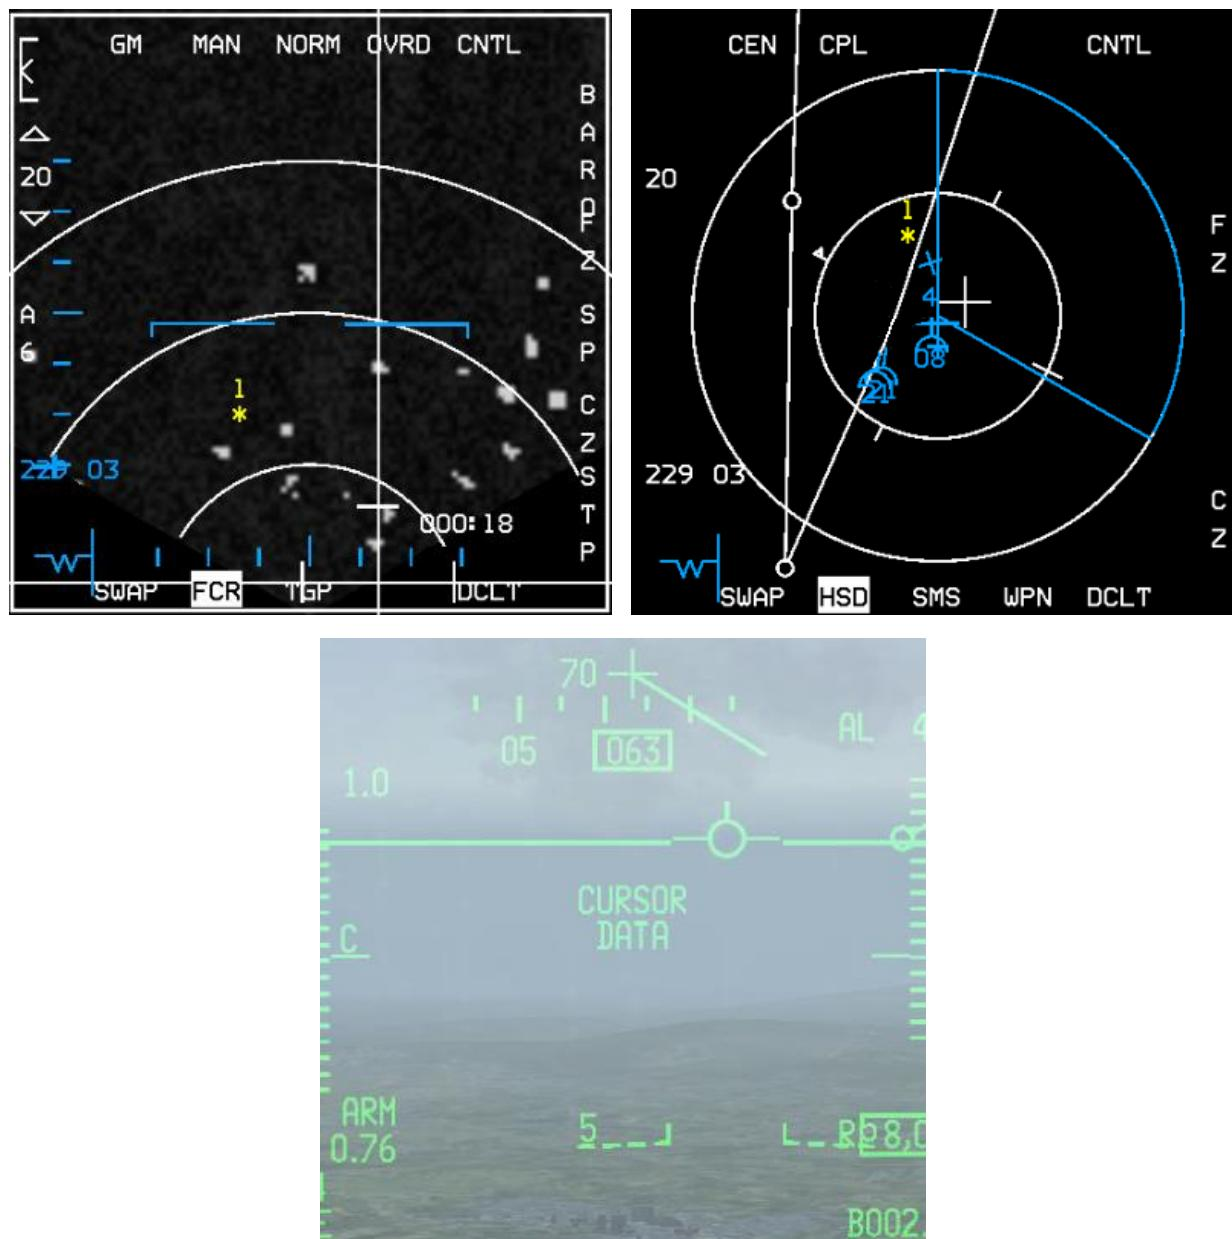

Figure 13 Assignee (#3's) FCR, HSD and HUD. Assigner (#1) sent cursor data NNE of ownship Markpoint
- Data Link FCR A-G Cursor Position (see Figure 13). The data link A-G cursor position is displayed on the HSD as an asterisk with the sending flight member's number above it.
Transmitting ownship A-G cursor coordinates is accomplished hands-on by making the FCR the SOI and slewing the radar cursor with the CURSOR/ENABLE control to the point-of-interest and then depressing COMM switch right on the throttle (Page Down as keystroke default). An audio tone is audible in the headset and the mnemonic XMT is highlighted for two seconds adjacent to OSB 6 on the HSD. The pilot will not see his own A-G cursor position data link symbol, which is a yellow asterisk (*) symbol (see Figure 13 below).